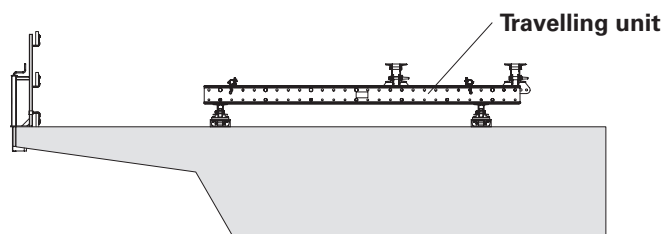

Fig. C1.02
2. Attach the travelling unit to the crane and set it down in the U-sections. (Fig. C1.02)